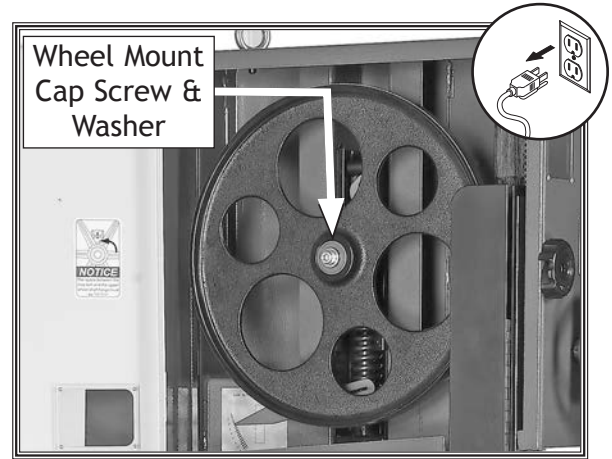

Figure 89. Location of wheel mount cap screw and washer.
3. Remove lower wheel mount cap screw and washer shown in **Figure 89**, then slide lower wheel with bearing off of shaft.